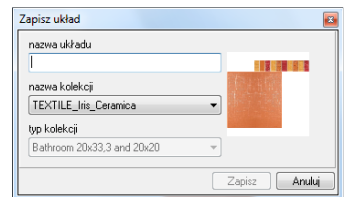

Fig. 361 – saving a set
- if the preview looks satisfyingly, click the **Save** button and enter data in the **Save set...** dialog (Fig. 361);